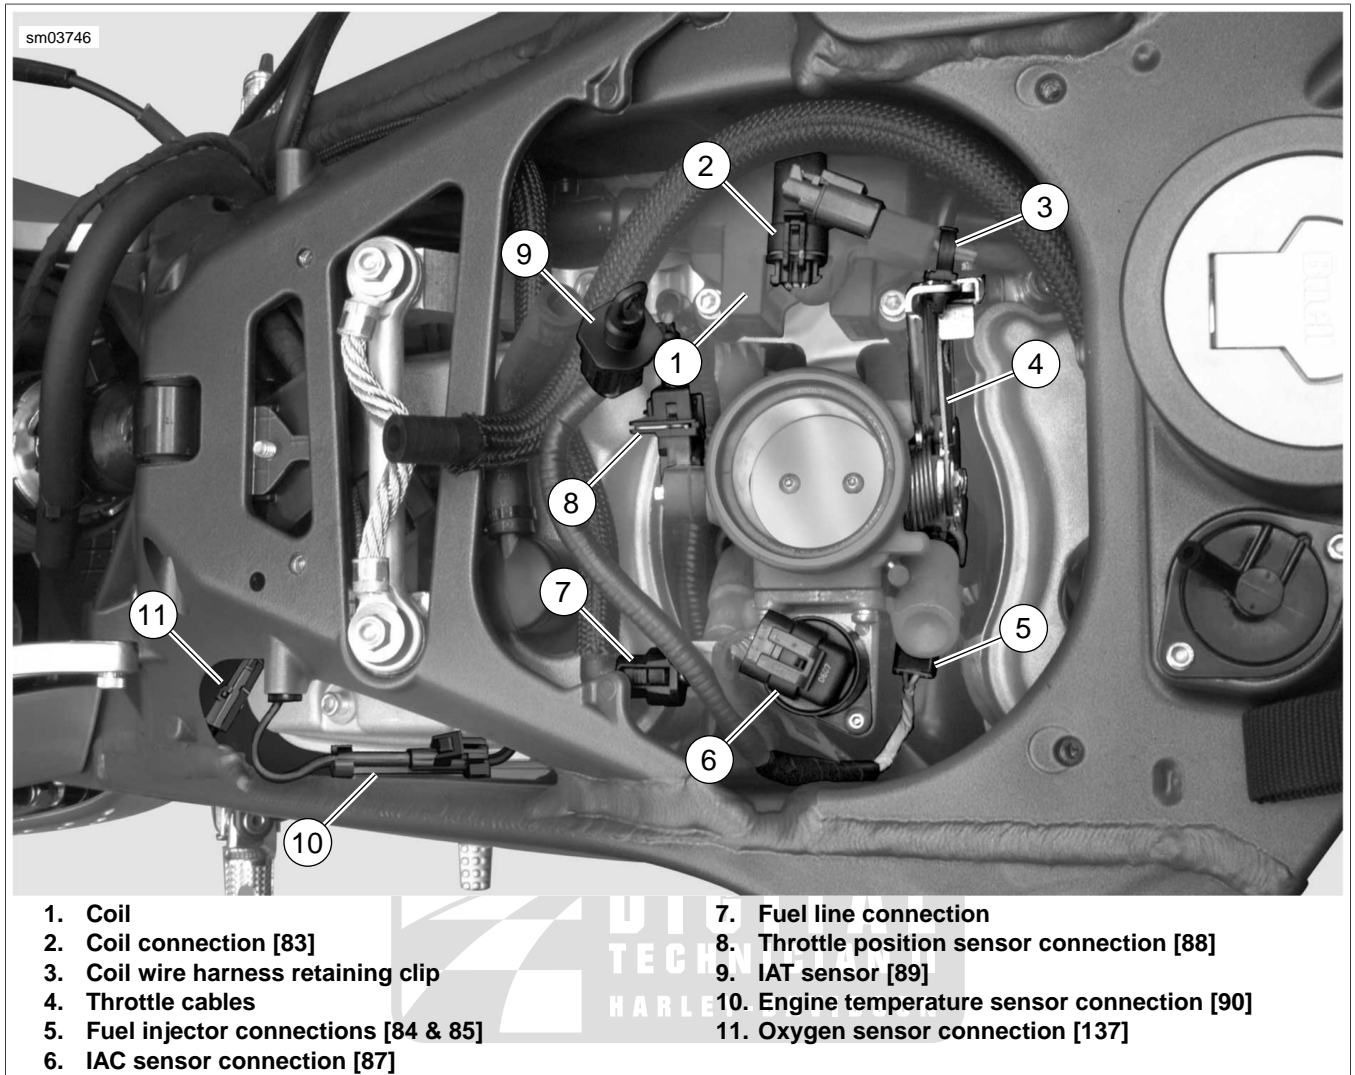

Figure 3-5. Fuel Line, Connections and Throttle Cables
8. See Figure 3-5. Disconnect fuel line (7).
9. Disconnect the ignition coil connector [83] (2) and remove the ignition coil (1).
10. Disconnect throttle position sensor [88] (8).
11. Disconnect fuel injector leads [84], [85] (5).
12. Disconnect idle air control [87] (6).